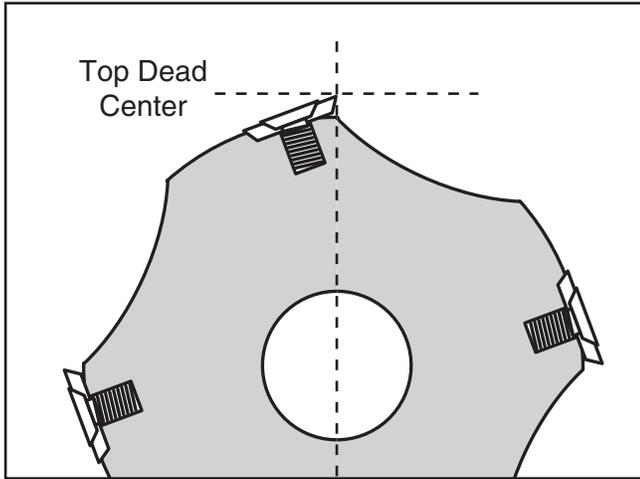

Figure 48. Cutterhead insert at TDC.
- Use motor pulley to rotate cutterhead until one insert is at TDC (its highest point during rotation), as shown in **Figures 48–49**.